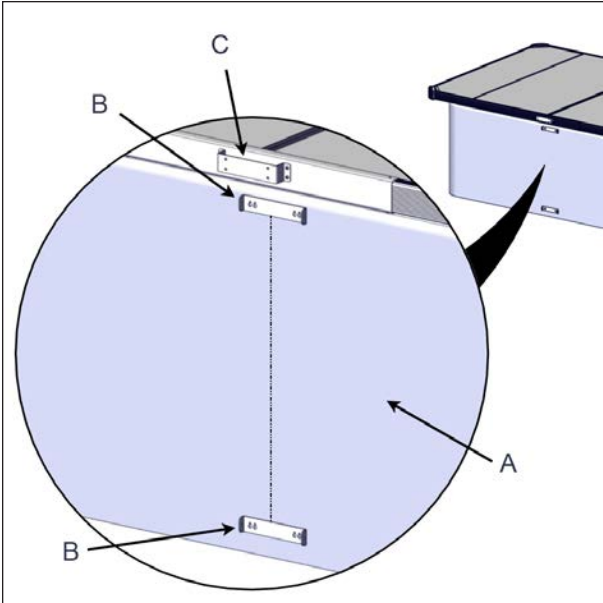

FIGURE 71: TUB MOUNT BRACKET INSTALLATION
7. Position the tub mount brackets with the previous marks, fasten it properly and securely to the spa frame (Figure 71). If the spa structure is over 50" (127 cm) high, install the extended tub mount bracket on the